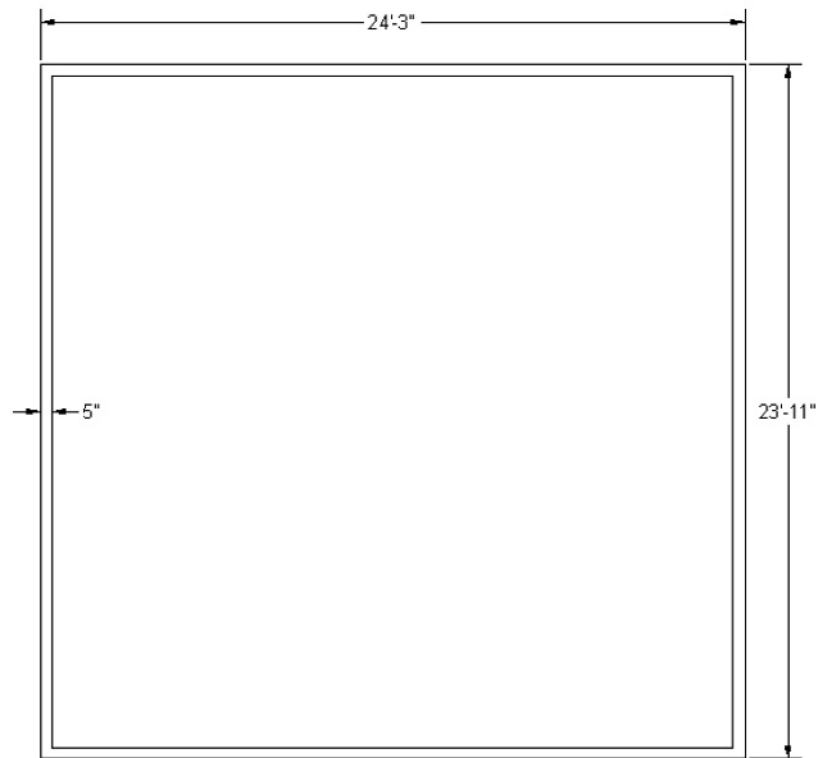

Figure 3.12 – Floor Plan, Step 7
- 7) Explode both wall rectangles. This is needed to break apart the rectangles for use as the basis for the interior walls. You should now have a total of eight individual lines as seen in Figure 3.12.